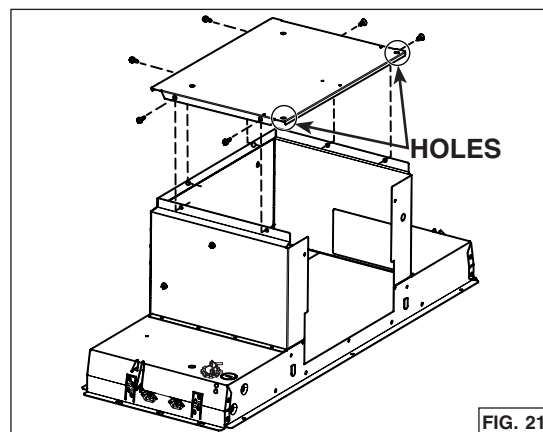

FIG. 21
8. Install the back plate on top of the unit, where the blower support plate was. Orient the holes nearby the corners towards the back of the unit. Assemble to the top of the unit using 6 screws previously removed in step 6 (FIG. 21).